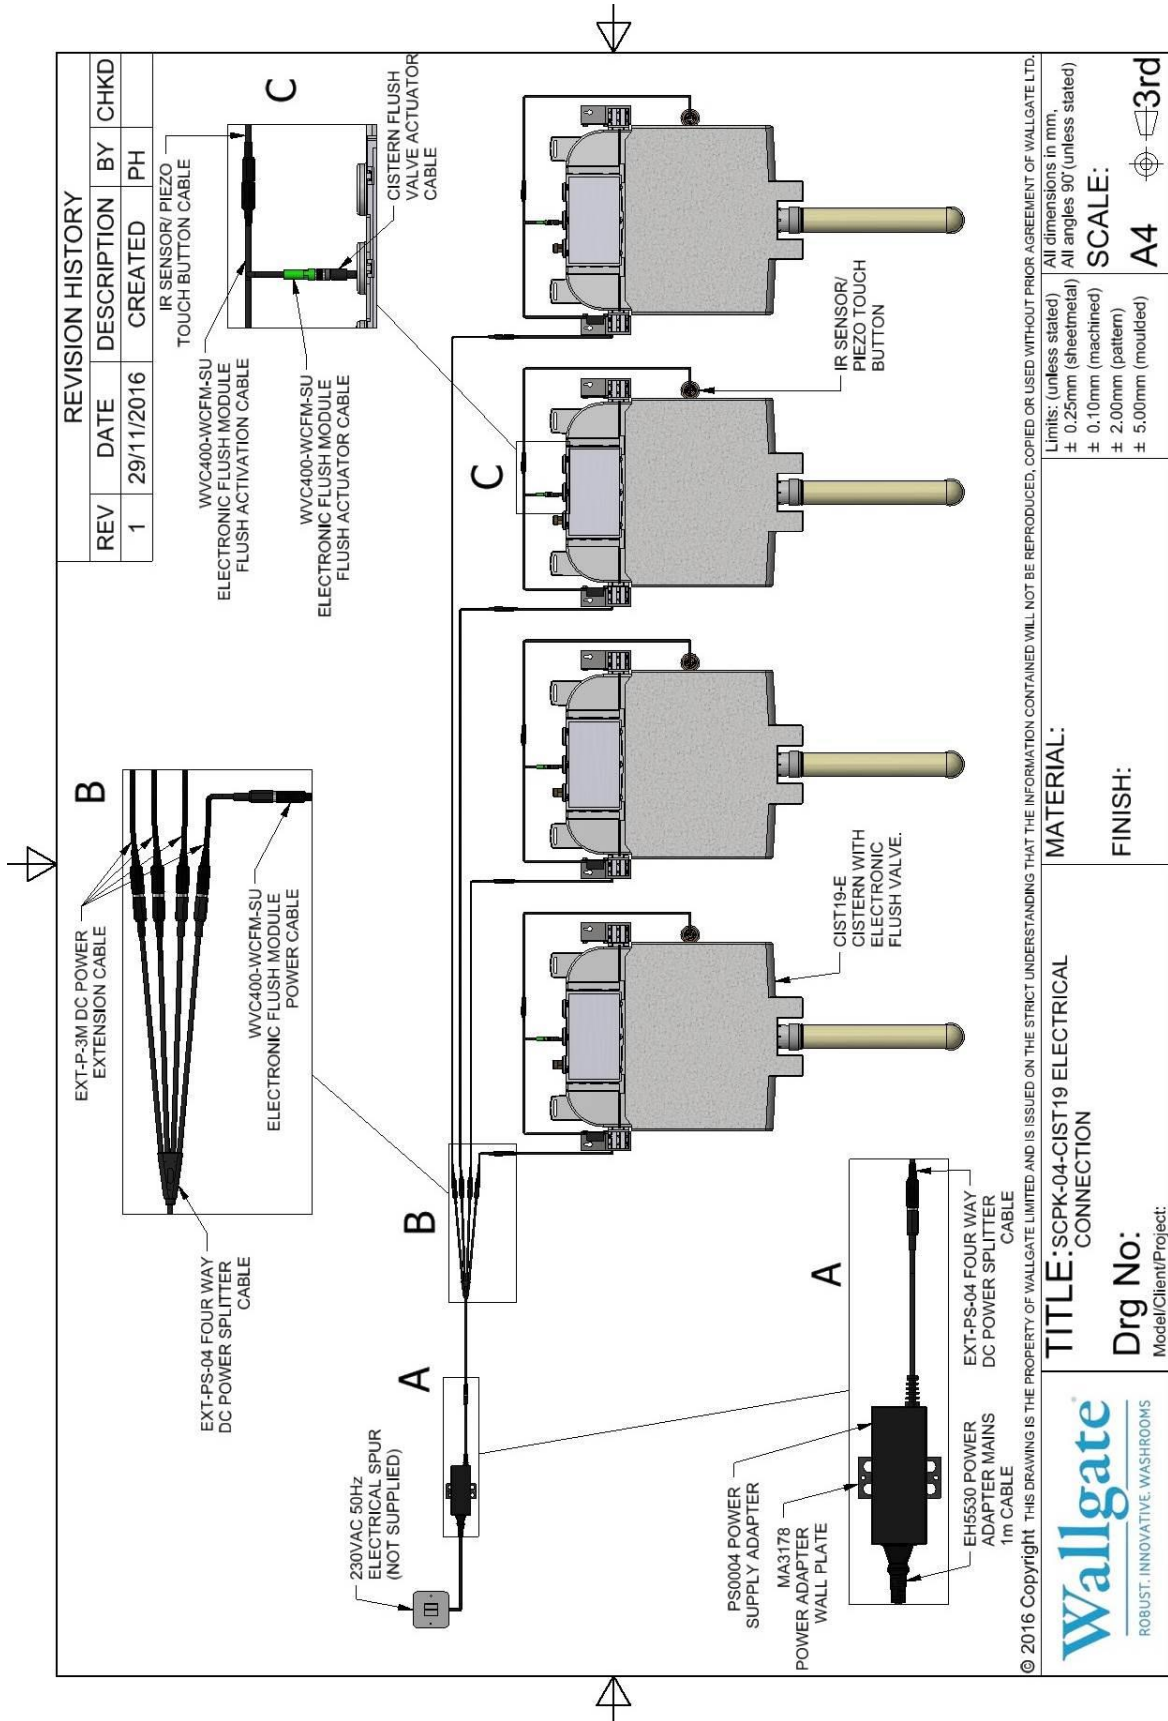

Fig: 4 (Typical installation layout)
1. The flush valve is controlled electronically by a flush module which is located on the left hand mounting bracket. The cable is routed from the flush valve, out of the top of the cistern for connection to the coloured socket on the flush activation cable from the flush module (Fig 4). Ensure the pins on the connector are correctly aligned before mating them together and secure with the locking ring.
9. Flush Valve Activation Touch Button or Infra-Red (IR) Sensor
A Wallgate touch button or IR sensor (Fig 4) is used for the activation of the cistern flush valve once connected to the flush module. The touch button or sensor will be wall mounted alongside the WC pan at an appropriate position for use. Refer to the instructions or drawing supplied with the touch button or sensor for installation and connection to the control unit.